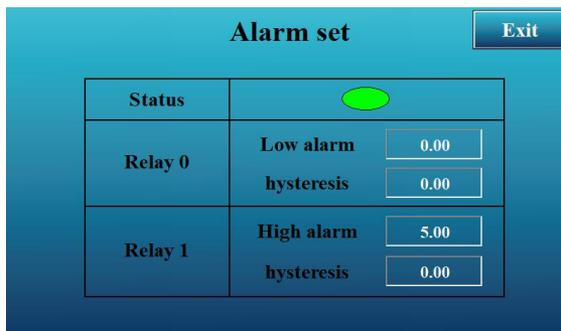

Fig.22 Alarm set interface
**Alarm set:** Click "Alarm Setting" button on the Menu interface to enter the “Alarm set” interface. The High and lower alarm values and the return difference of the sensor can be set. As shown in Fig.22. (This item is set with alarm function)